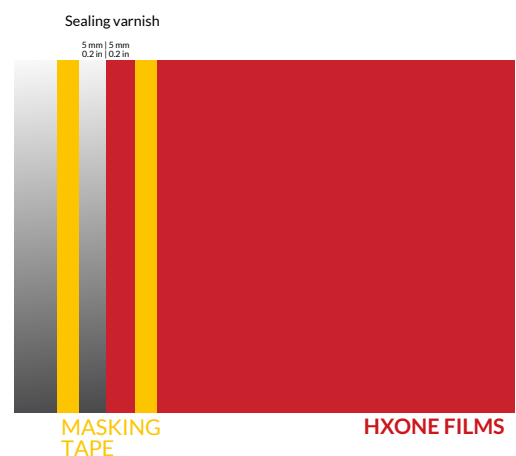

Figure 32
- 1 to the HXONE film at 5 mm (0.2 in.) from its edge. (FIG. 32)